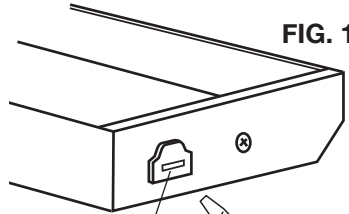

FIG. 1
1. Layout where fixture(s) are to be placed. Remove plastic receptacle cap that covers the INPUT socket where you will plug in power cord. (FIG. 1)